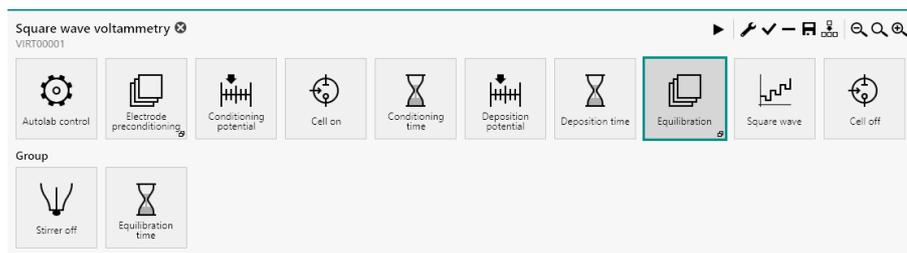

Figure 641 The Equilibration group
- Equilibration:** this command group is used to create an equilibration step in the procedure. The commands in this group are used to switch the stirrer off and wait for the specified amount of time (see Figure 641, page 532).